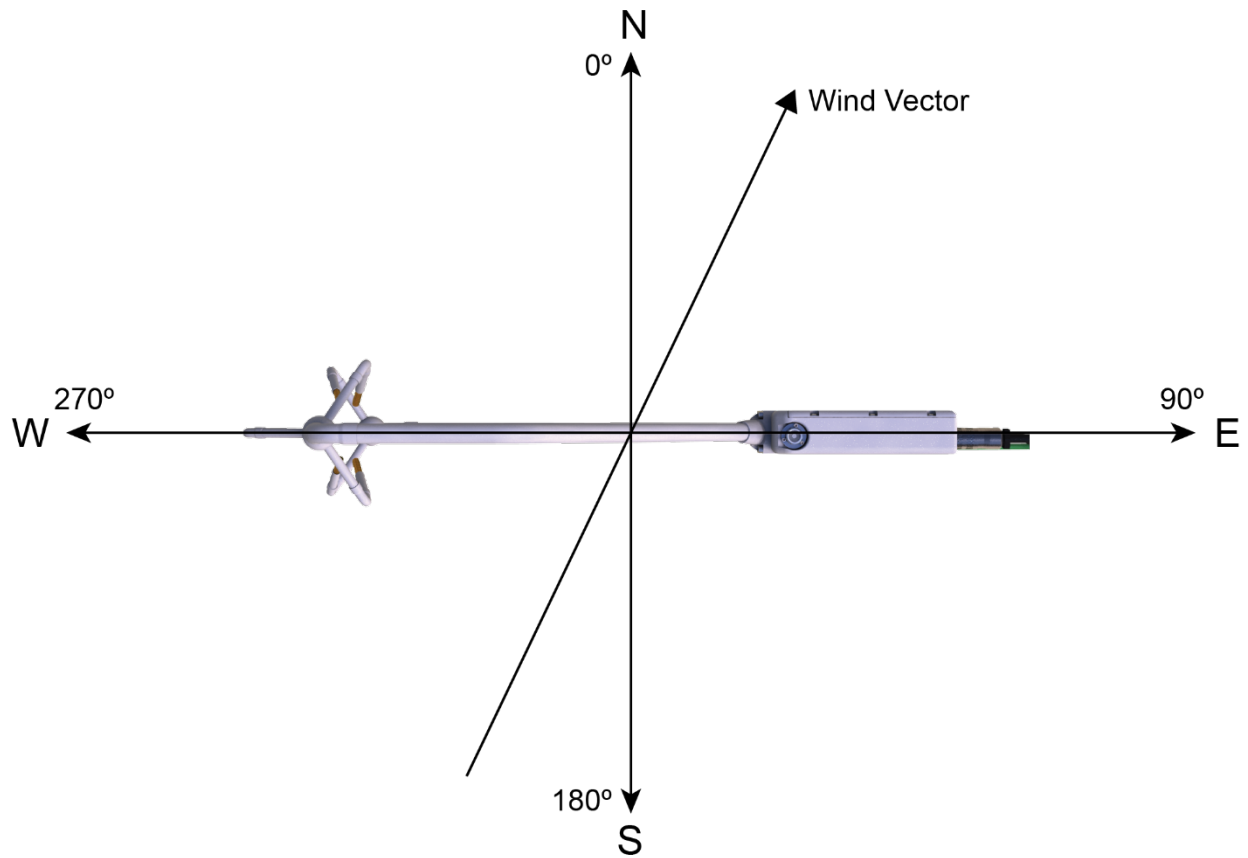
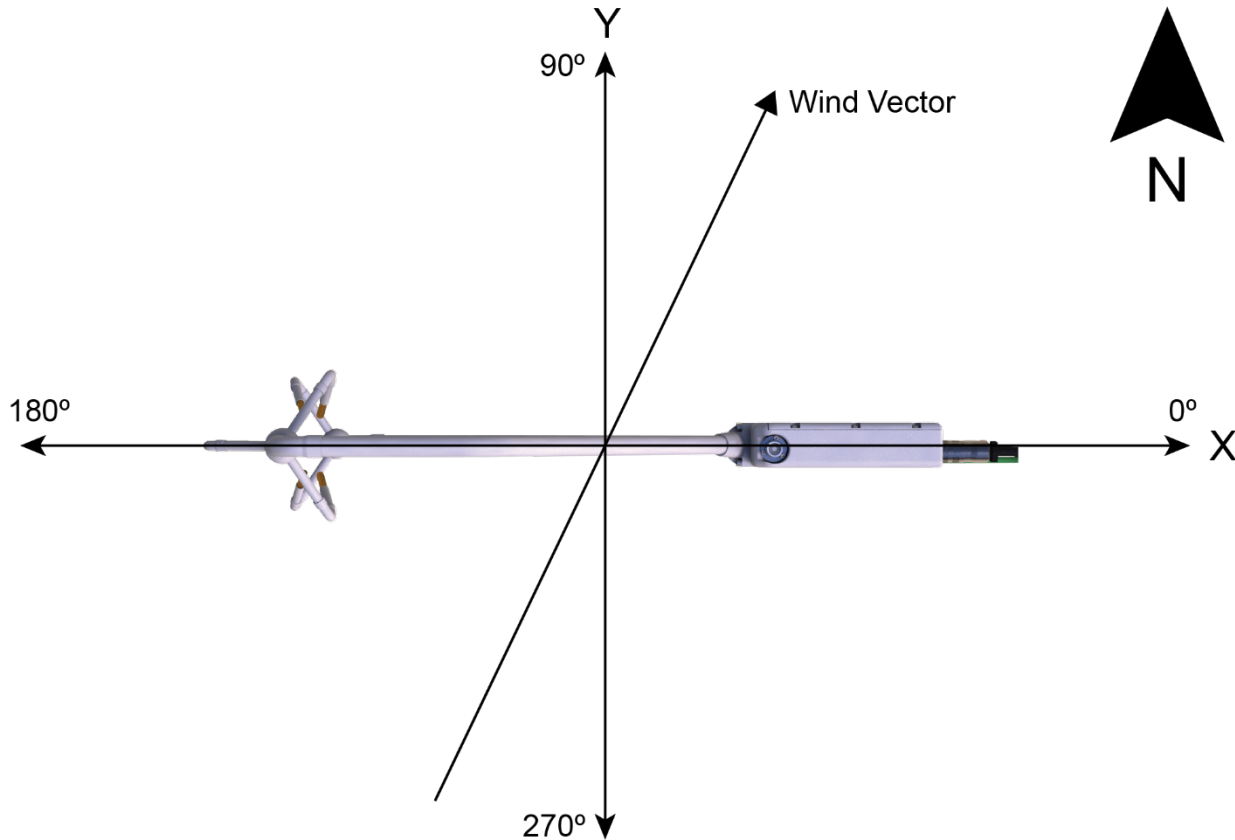

FIGURE 6-14. Compass coordinate system, compass wind direction is 200°. The sonic azimuth of the anemometer is 270°
FIGURE 6-15. Right-handed coordinate system, horizontal wind vector angle is 70°
*EasyFlux DL* reports the wind direction in both the sonic coordinate system (a right-handed coordinate system, FIGURE 6-14) and in the compass coordinate system (a left-handed coordinate system, FIGURE 6-15). To report the wind direction in the compass coordinate system, the orientation of the sonic must be known. The sonic coordinate system is relative to the sonic itself and does not depend on the sonic's orientation. The compass coordinate system is fixed to Earth. For the *EasyFlux DL* program to compute the correct compass wind direction, the azimuth of the sonic negative x-axis must be entered into the program. The output value for the compass coordinate system is **WD** and the output value for the sonic coordinate system is **WD\_Sonic**. The program default value for the variable **sonic\_azimuth** is **0**. To report a true compass wind direction, an appropriate value for **sonic\_azimuth** must be entered into the program. The default is appropriate only if the sonic is mounted such that the negative x-axis points to the north.
FIGURE 6-14 and FIGURE 6-15 show the compass and sonic coordinate system. Both figures show the sonic's negative x-axis pointing to the west (compass azimuth of 270°). The wind direction is measured in degrees clockwise from due north. In the compass coordinate system, the wind direction (**WD**) is 200. To calculate the wind direction in FIGURE 6-14, the orientation of the sonic anemometer relative to due north is needed in the program. FIGURE 6-15 is in a right-handed coordinate system, and the wind vector direction is measured in degrees counterclockwise from the positive x-axis. Therefore, the wind vector direction (**WD\_sonic**) is 70°.